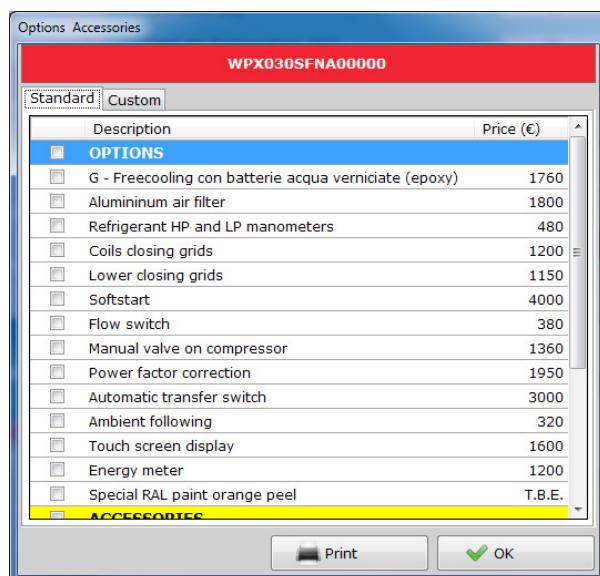

Fig. 1 - Accessories-Options section
- **Standard:** selection of accessories and options (Fig.1) from a list. The selection changes the unit code: the new code is shown in the red box at the top of the mask. The selection is applied to all available units.